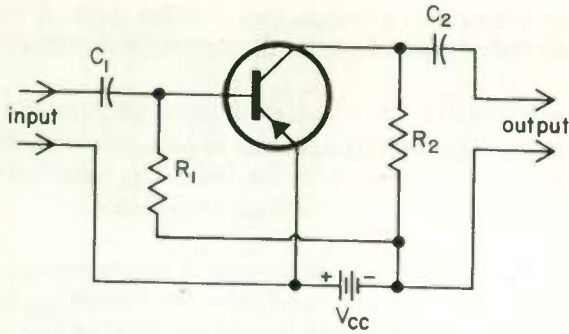

Fig. 18
2. See Fig. 18.
3. In (a) both base and collector are fed from negative sides of voltage sources. In (c) the collector is fed from the negative side of the voltage source but the emitter is fed from the positive side. If connected similarly to Fig. 18, the emitter bias polarity would be wrong.